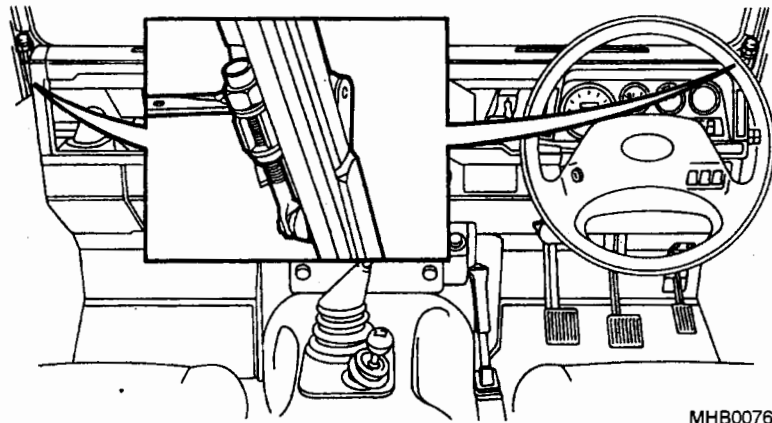

Fig 16 Windscreen lowering operation
- 42.4 Slacken the cap nuts on the windscreen clamps (Fig 16).